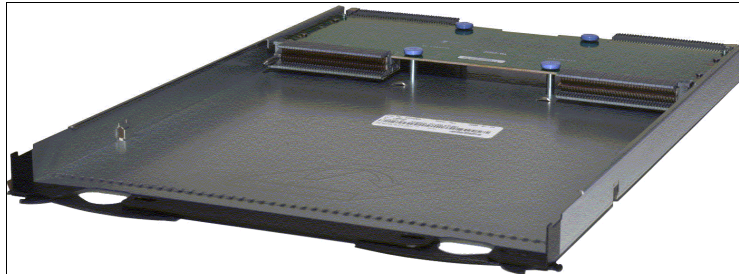

Figure 1-24 IBM BladeCenter HT Interposer - used for extending the midplane to connect the high speed I/O modules.
- Interposers: AMMs and I/O (switch) modules are all in the front of the chassis with the blades. Because they plug into a common midplane with the blade servers, they require interposers in each populated I/O bay to make up the difference in depth between switch enclosures and blade server enclosures. These interposers are entirely passive, and extend the midplane out to the rear connectors of the I/O modules. Figure 1-24 shows the interposer.